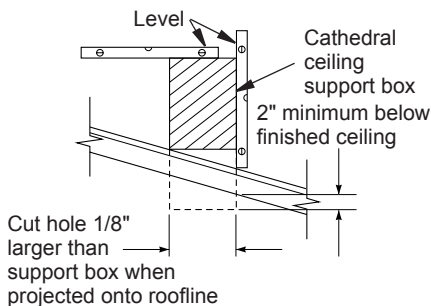

Figure 24 - Cathedral Ceiling Support Box Installation
2. Cut the hole $\frac{1}{8}"$ larger than the support box outline (see Figure 24).
3. Lower the support box through the hole in the roof until the bottom of the box extends at least 2" below the ceiling (see Figure 24). Align the support box vertically and horizontally using a level. Temporarily tack the support box in place through the inside walls and into the roof sheathing.